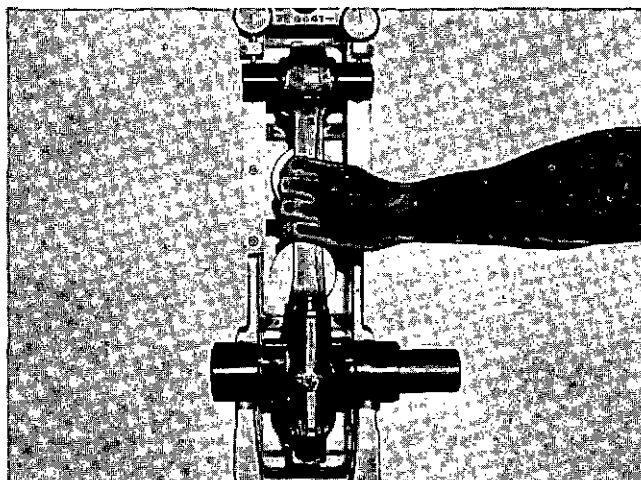

Fig. 1-8-3, V40138. Checking rod bore alignment
5. Set rod in fixture. Fig. 1-8-3.